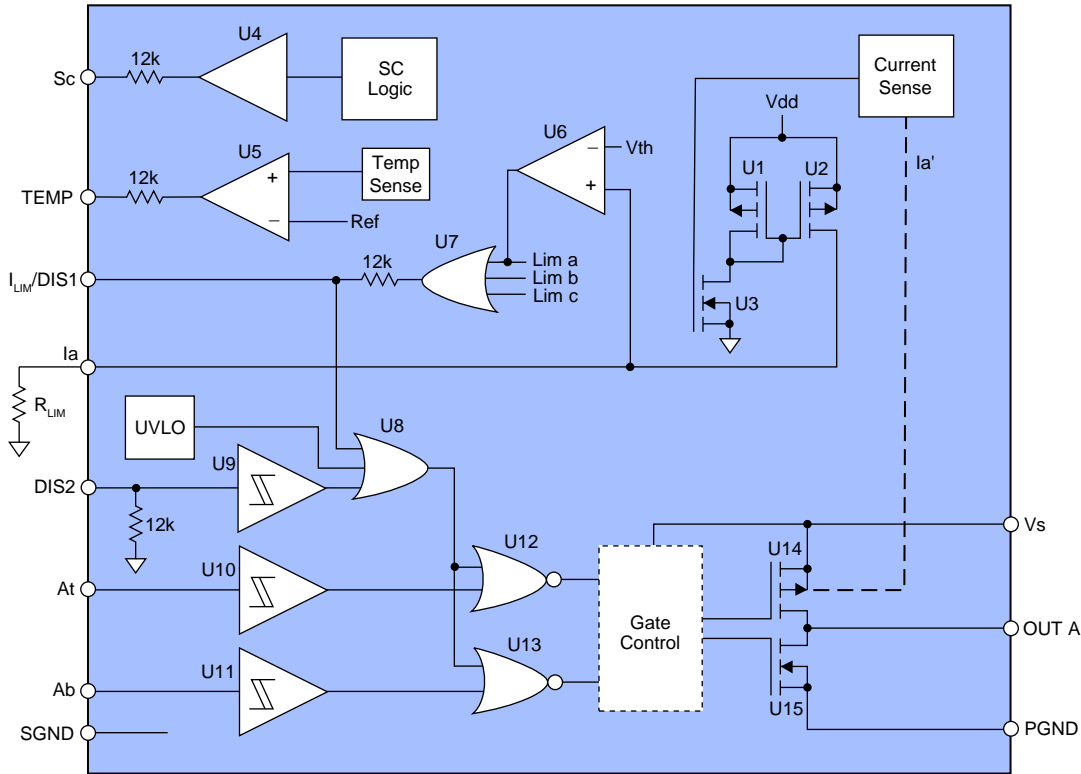

Figure 5. Control and Sense Architecture
As depicted in Figure 5, the output current of the upper output FET U14 for OUT A is continually measured, (The same occurs for the corresponding output FETs for OUT B and OUT C). The output of the current sense circuit is applied to a current mirror comprising U1, U2 and U3 which develops a voltage across the external current limit resistor. This voltage is compared with the current limit threshold by Comparator U6.
**Disabling Cycle-by-Cycle Current Limit** – The current limit feature may be disabled by pulling the  $I_{LIM}/DIS1$  pin to GND. The current sense circuitry identified in Figure 5, will continue to provide top FET output current information.